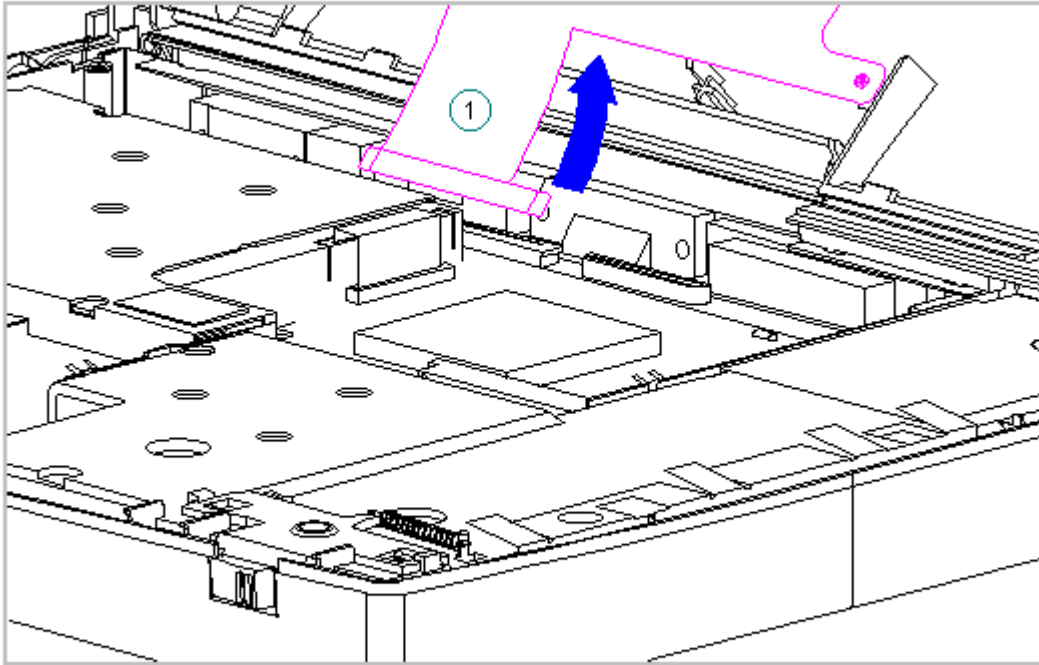

Figure 3-187. Disconnecting the Display Ground Cable from the LIF Clip (All Models)
8. Remove the display ground cable [1] away from the LIF clip (Figure 3-187).